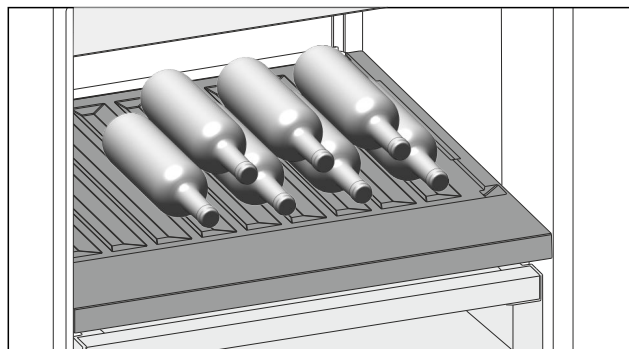

Fig. 195 Example illustration
- Place bottles in the back row with their bases against the back wall. (see Fig. 195)